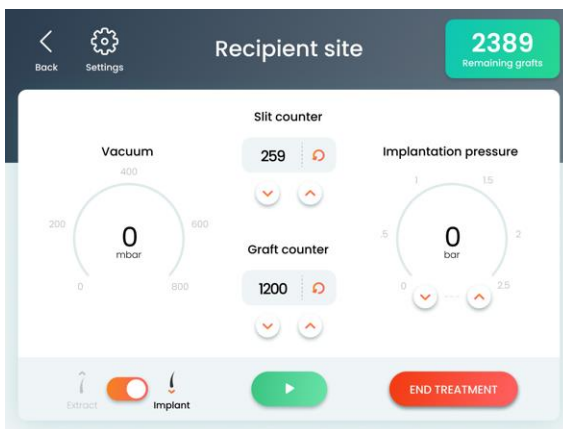

Figure 5-12. Recipient Site Treatment Screen (in Pause State)
1. Verify that the Recipient Site Treatment screen appears. If not, from the treatment screen, toggle the **Extract/Implant Selector** to **Implant**; the Recipient Site Treatment screen appears, as shown in Figure 5-12.